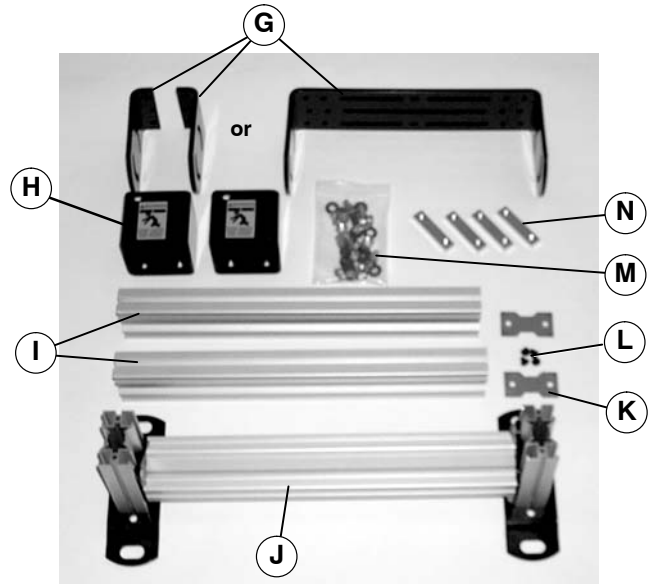
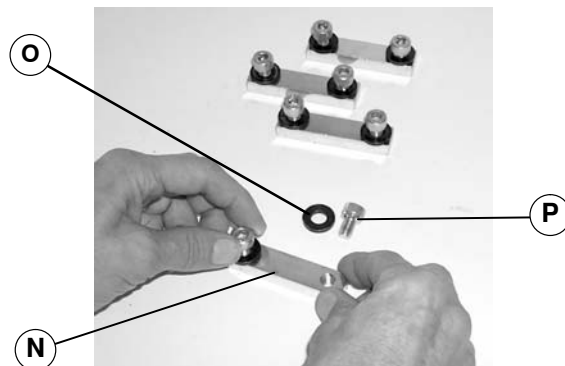

Figure 2
Figure 3
1. Typical components of multi tier stand (Figure 2).
Multi Tier Stand Typical Components (Figure 2)
2. Open tier hardware pack (M of Figure 2). Install two hard washers (O of Figure 3) and M8 x 12mm socket head screws (P of Figure 3) on tube joining bar (N). Do not tighten screws.